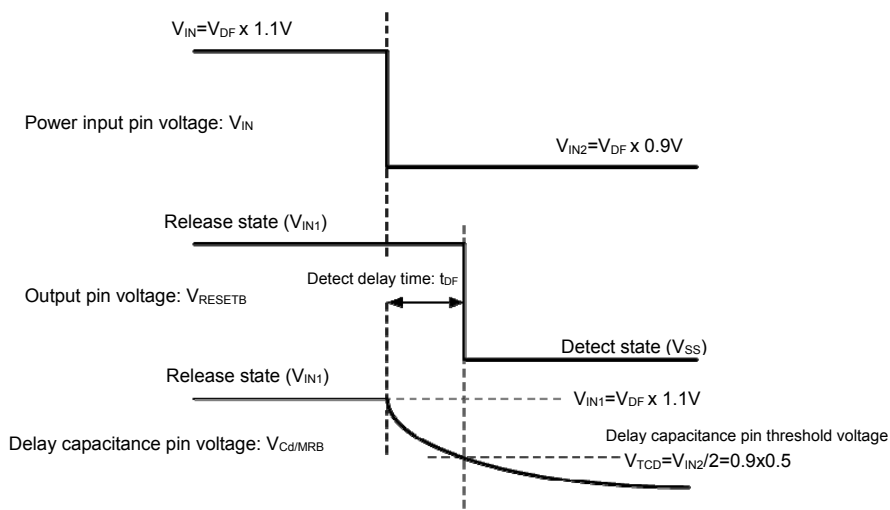

Fig. 3: Detect delay time of equation (4) (timing chart)
For details of the detect delay time of equation (4), refer to Fig. 3.